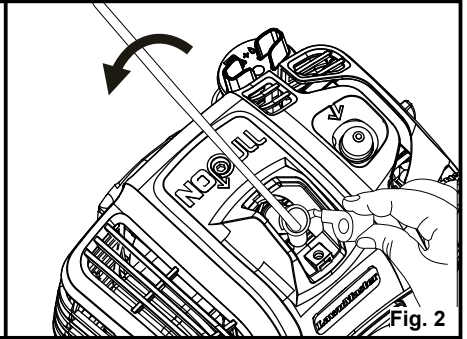

Fig. 2
- Remove the spark plug cap. Fully cover the spark plug using the provided socket wrench. Rotate the wrench counter-clockwise to remove the spark plug (Fig. 2).